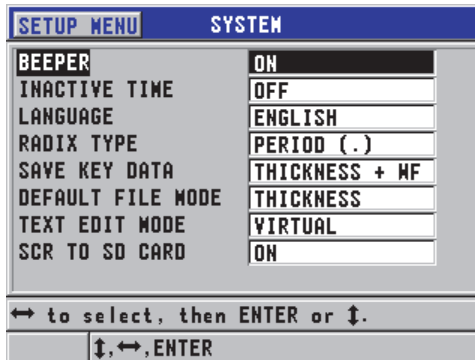

Figure 8-2 The **SYSTEM** screen
1. In the measurement screen, press **[SETUP]**, and then select **SYSTEM**. The **SYSTEM** screen appears (see Figure 8-2 on page 144).